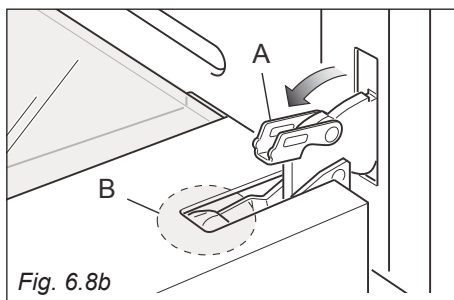

Fig. 6.8b
- Open the lever "A" completely on the left and right hinges (fig. 6.8b).
- Gently close the door (until left and right hinge levers "A" are hooked to part "B" of the door (figs. 6.8b, 6.8c).